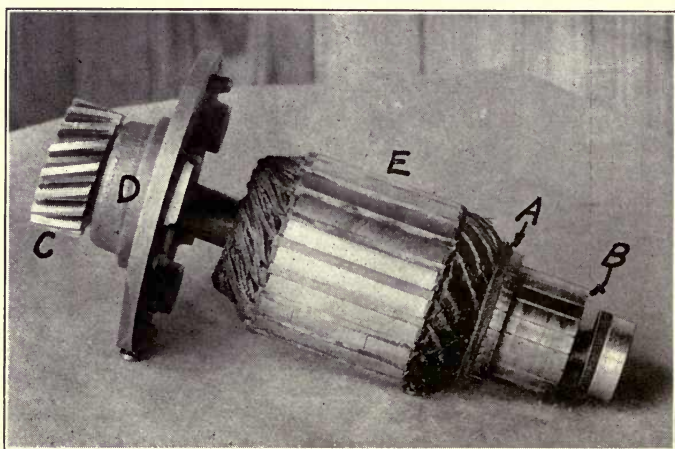

FIGURE 9.
**ARMATURE.** The generator armature is shown in Figure 9. It has 21 slots, and 21 segments on the com-
The space between segments should be kept free from oil, grease, and bits of carbon and copper. To clean these spaces, use a sharp pointed tool, and scrape out the dirt until the clean mica shows the entire length of the segment, between the points marked A and B in Figure 9. The mica should be cut down until it is about  $1/32$  inch below the surface of the commutator.